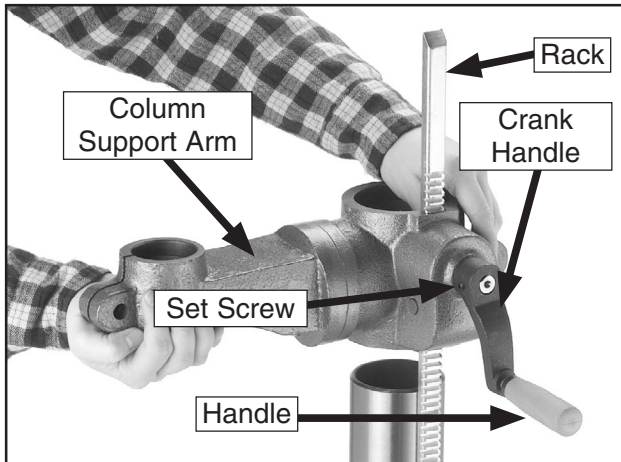
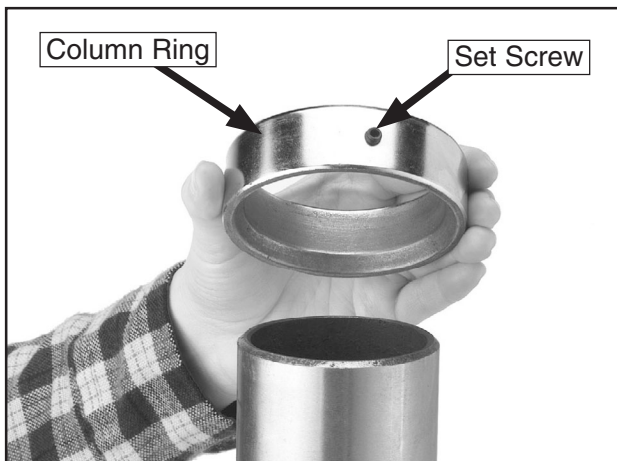

Figure 9. Rack orientation (G7946 shown).
Figure 10. Inside bevel in the correct position.
2. Slide the crank handle over the pinion gear shaft and align the set screw in the crank handle with the flat portion of the shaft. Secure with a 3mm hex wrench. See **Figure 9**.
4. Remove the column ring (**Figure 10**) by loosening the set screw and remove the rack (**Figure 9**). The end of the rack that has teeth extending closest to the edge must be positioned down.
5. Insert the rack into the table bracket pocket so the gear teeth mesh and the rack is positioned as shown in **Figure 9**.
7. Slide the column ring over the column with the beveled edge facing down (**Figure 10**), fit the beveled edge of the column ring over the rack, and tighten the set screw. **Note:** Do not over-tighten the set screw or you may split the column ring. Also make sure the rack is seated firmly in the lower ring.